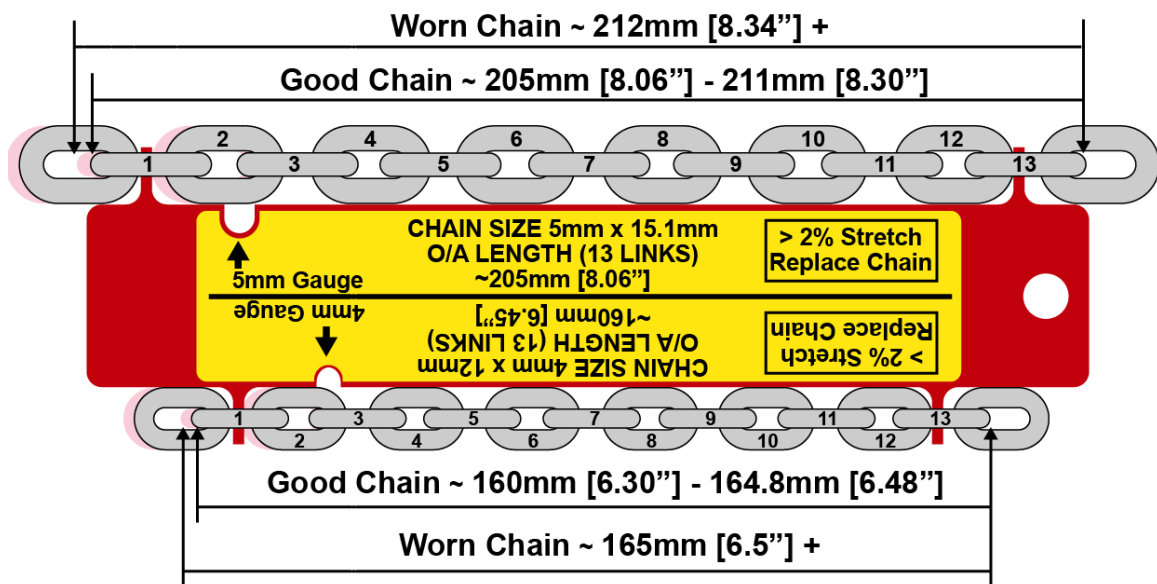

Figure 4-2
1. Determine which type of chain is being inspected, either 4mm or 5mm, by placing a single link into the chain gauge where the arrows are located. (Refer to Figure 4-2)